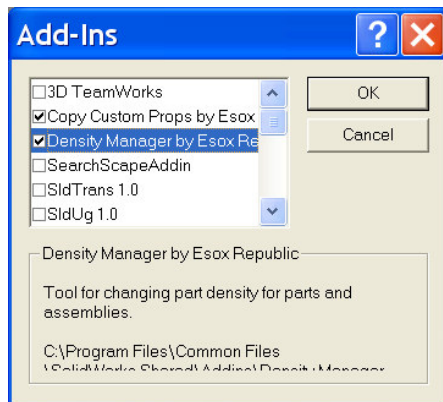

Figure 2
- Addin not activated. Check addins under *Tools --> Addins*. Make sure that *Density Manager* is activated. See **Figure 2**.